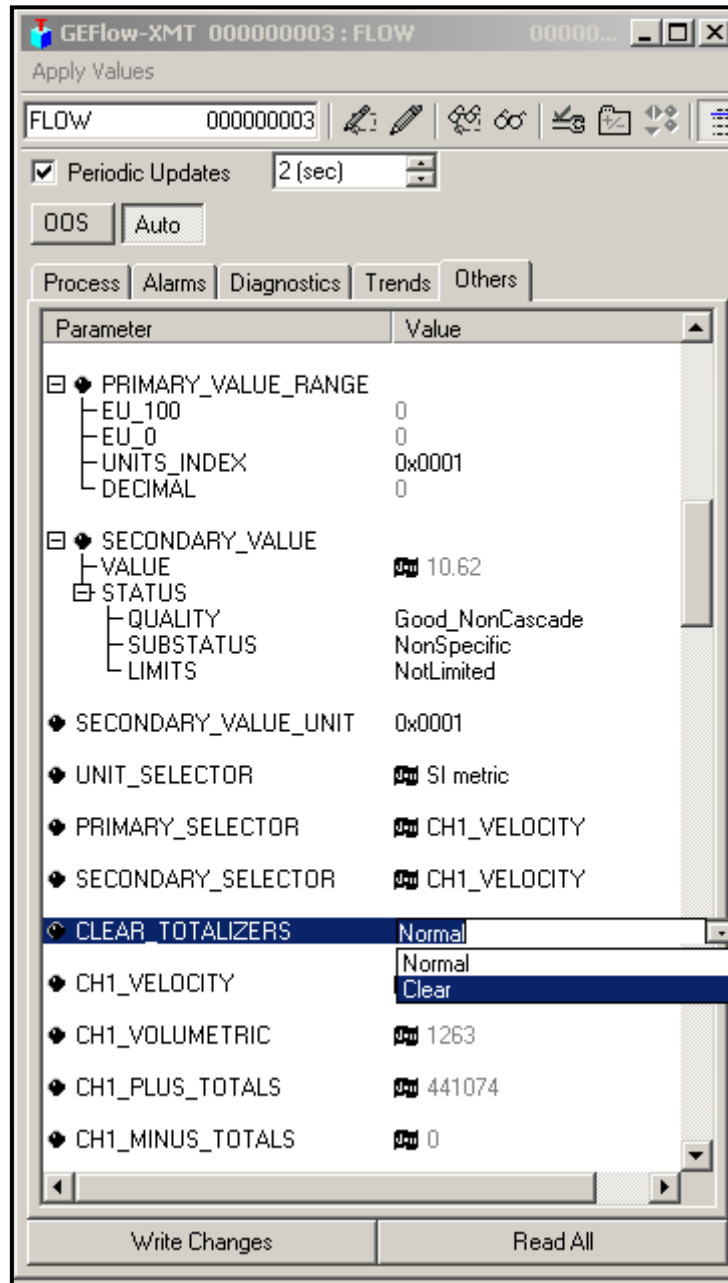

Figure 43: Clear Totalizers Drop Down List
3. Select **Clear** from the drop down list box (see *Figure 43 below*).